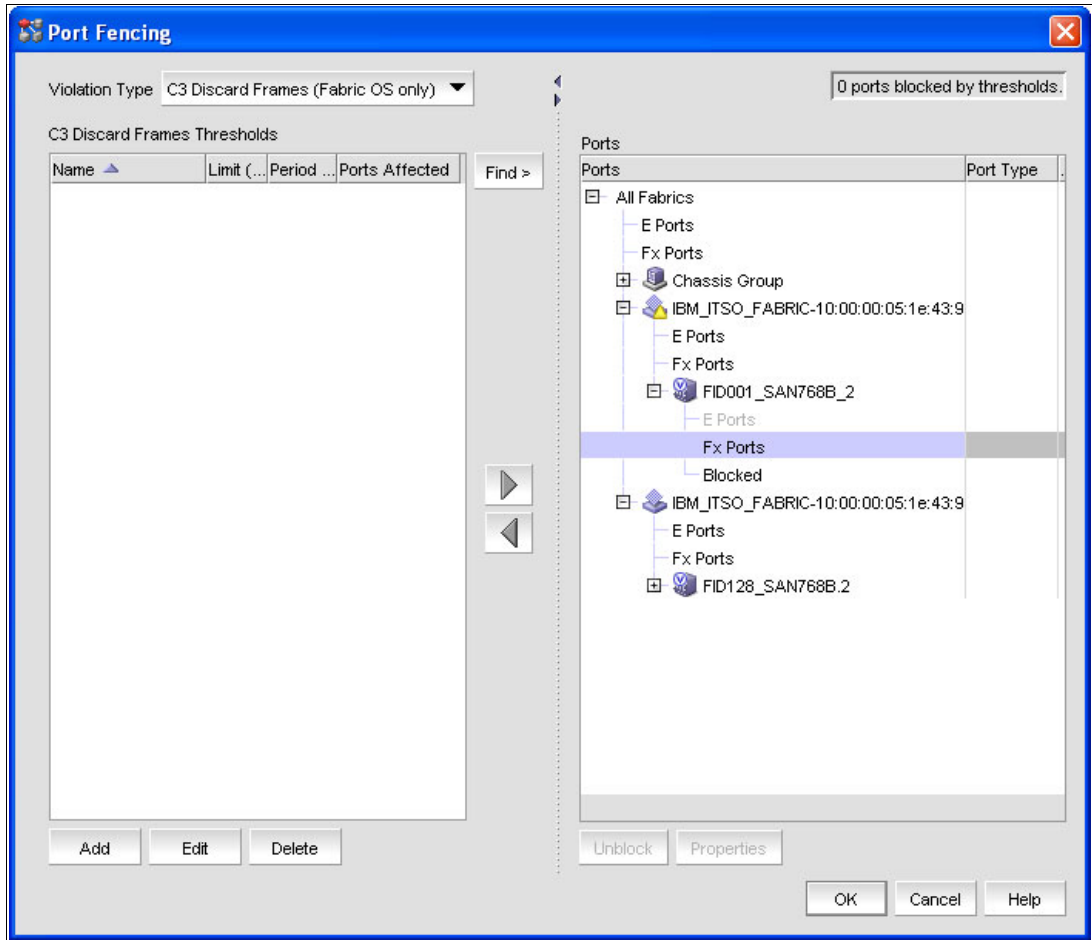

Figure 8-55 Port Fencing dialog
2. Select the Fencing Policy from the Violation Type drop-down menu shown in Figure 8-55 on page 297 (in this case, the **Invalid CRCs** policy).